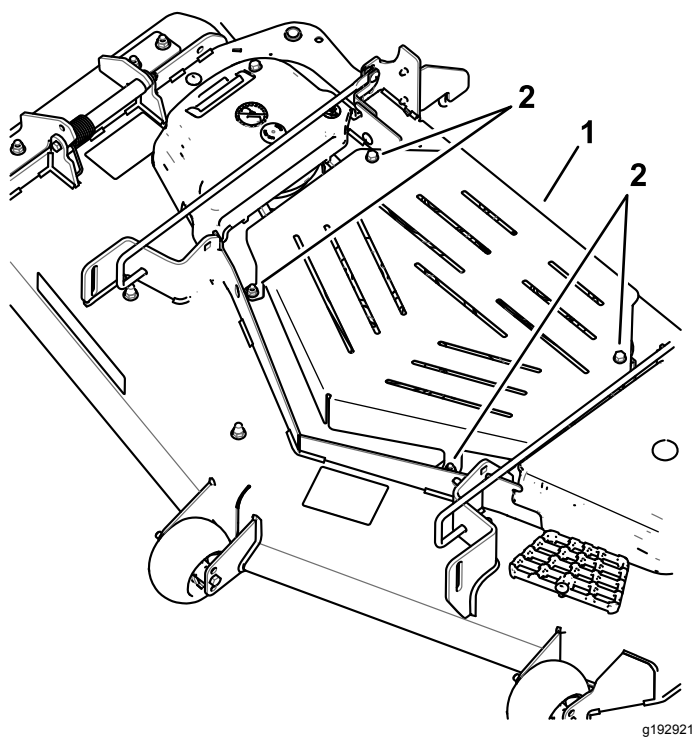

Figure 40
2. Loosen the 2 front bolts and remove the sheet-metal guard to access the mower belts and spindles (Figure 40). Install the sheet-metal guard and tighten the bolts after maintenance.